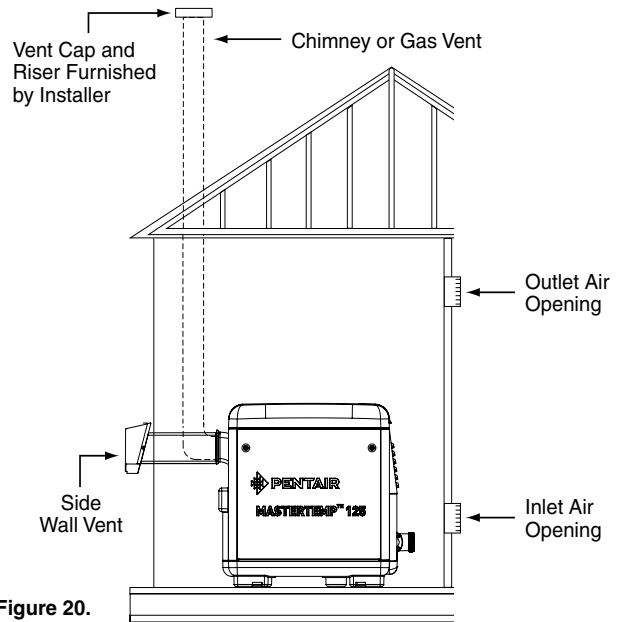

Figure 20.
## **HORIZONTAL OR VERTICAL VENTING - POSITIVE PRESSURE (See Figures 20, 21, and 22) (Category III)**
6. **Vent Termination – Vertical (See Figures 20 and 21),** for height of vent termination above the roof. Use an "A20 approved" vent terminal specified by local and national codes and your manufacturer's instructions. A roof termination must be vertical. In Canada, the Vent Cap location shall have a minimum clearance of 4 feet (1.2M) horizontally from electric meters, gas meters, regulators, and relief openings.